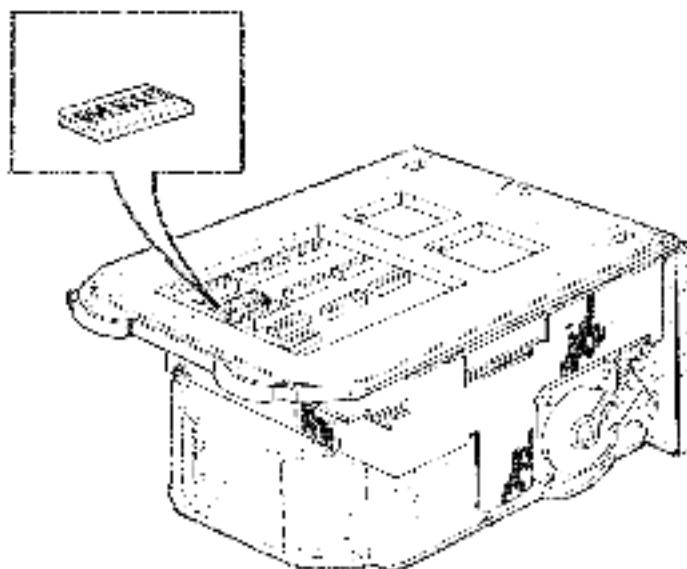

Figure 5-3 RD53 Disk Drive and Shunt Jumper
The Control Status Register (CSR) address of the first M7740 adapter module is fixed. You can change it using the Dual In-line Package (DIP) switch, P44 (Figure 5-3). Table 5-1 lists the factory setting. The Interrupt sector is set under program control.
5.3.1.1 RD51 – Table 5-2 lists the read/write board jumper setting for the RD51 DIP shunt jumper (Figure 5-3).
Figure 5-3 shows the jumper and LED locations for the RQDX1 and RQDX2 controllers. The RQDX3 controller module is not shown.